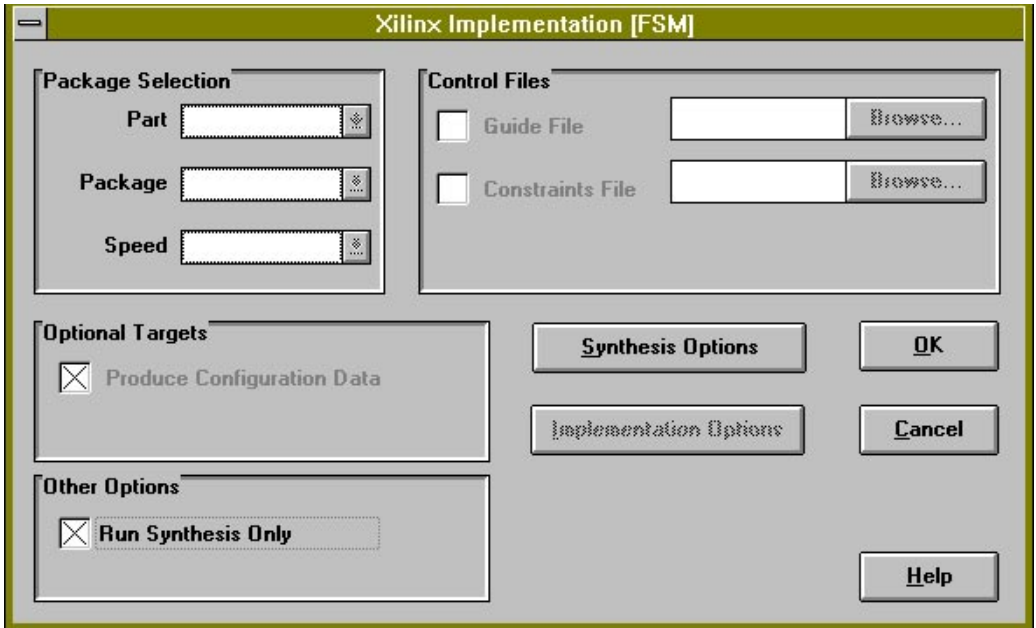

Figure 2-10 Xilinx Implementation Dialog Box
14. Select the **fsm.vhd** file from the list. The file name appears in the Design Name field. Make sure the **Start Notepad** box is NOT checked. The Design Entry dialog box should now look like Figure 2-10: